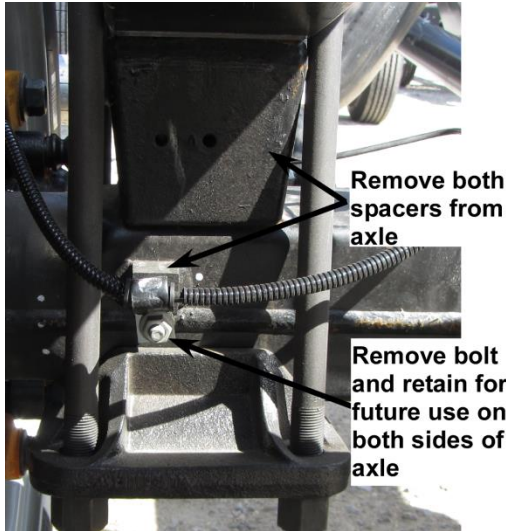

Figure 9. Remove Axle Spacer and Bolts
1. Locate bolts attaching parking brake and hydraulic brake lines to axle. Remove both bolts on both sides of the axle; retain these bolts for future use. Remove spacers sitting on top of the axle and on the backside of the axle as shown in Figure 9.